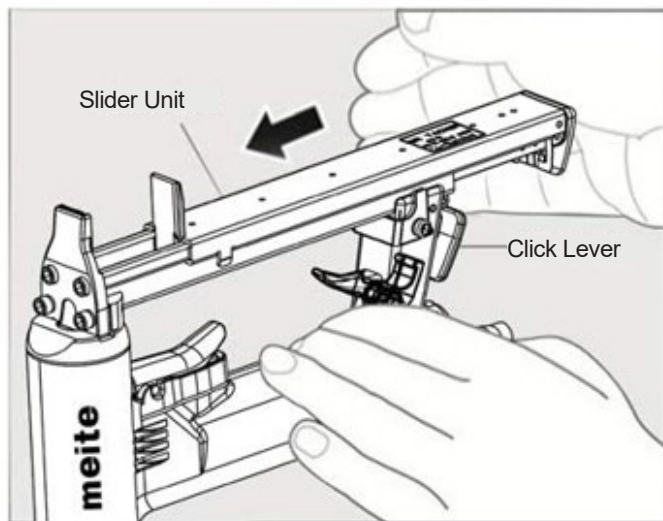

Fig. 3
- Push the magazine slide forward until magazine lever catches securely (Fig. 3).